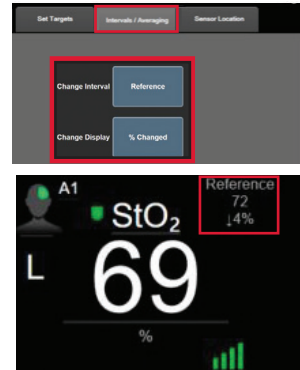

Figure 5
1. Select parameter tile, then select **Intervals/Averaging** tab (Figure 5).